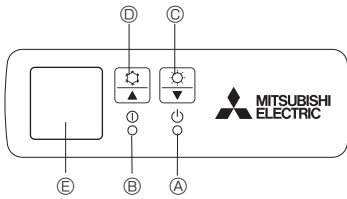

Fig. 5-1
- [Fig. 5-1] (A) DEFROST/STAND BY lamp (Orange)